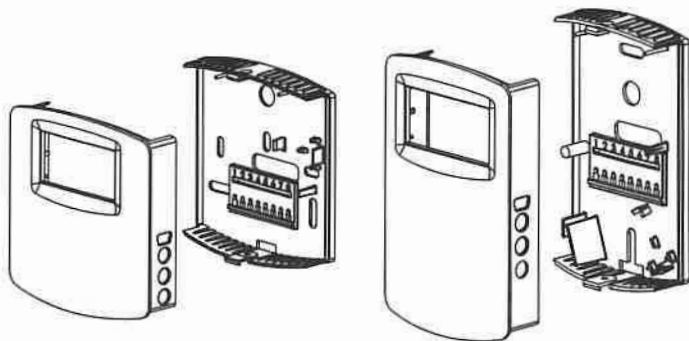

Figure 1: Removal Of Cover From Back Plate
1. Push tab on top and bottom of cover and lift cover from back plate (See Figure 1).